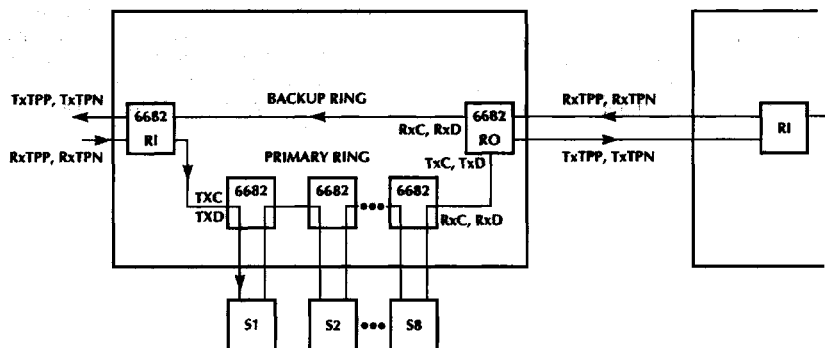

Figure 7. Intelligent UTP Hub.
Note 6: A. Difference between the delay from the nearest TxCLK rising edge to the TxTPPN differential BR edge and the delay from the nearest TxCLK rising edge to the TxTPPN differential BR/2 edge. Measured for either rising output edges or falling output edges only, with measurements made for each using random data (JKs, 0s, 1s). Measurements are to be made at the output of both test circuits shown in Figure 3. (See waveforms in Figure 7–4 of draft ISO/IEC 8802-5q/D4).
B. Difference between the delay from the nearest TxCLK rising edge to the TxTPPN differential edge and the delay from the nearest TxCLK rising edge to the TxTPPN differential edge. Measured for either rising output edges or falling output edges only, with measurements made for each using random data (JKs, 0s, 1s). Measurements are to be made at the output of both test circuits shown in Figure 3. (See waveforms in Figure 7–4 of draft ISO/IEC 8802-5q/D4).
Figure 7 shows a block diagram of an intelligent UTP Hub implementation with active retiming on each port. The architecture shown has a back up ring for fault tolerant operation. The Ring In and Ring Out ports use phantom current to detect wire faults. When a fault is detected, the Ring-In and Ring-Out port go into the bypass state and perform an automatic loopback onto the Back-up Ring. This feature is especially useful in stackable hub designs.